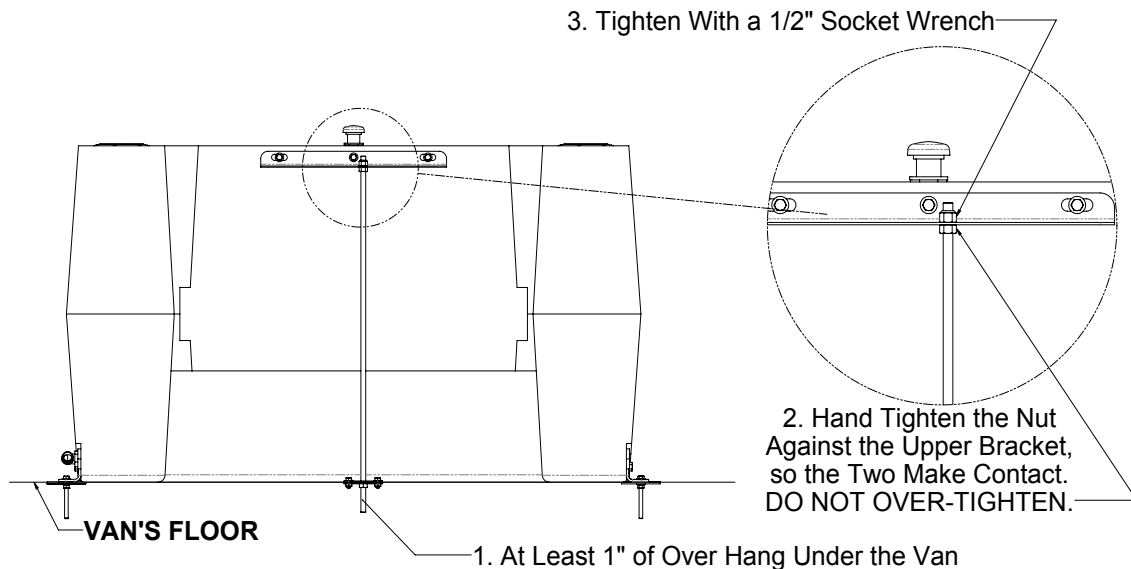

Figure 86. Fastening the Upper Bracket to the All Thread Rod.
11. Adjust the All Thread Rod so at least an inch of threads are exposed underneath the van. Hand tighten the 1/2" Nut against the Upper Bracket. DO NOT OVER TIGHTEN. Doing so will place an unnecessary constant load on the rod. Tighten the upper 1/2" Nylock Nut with a socket wrench. Keeping the sequence is important to completing this step correctly. (Figure 86)